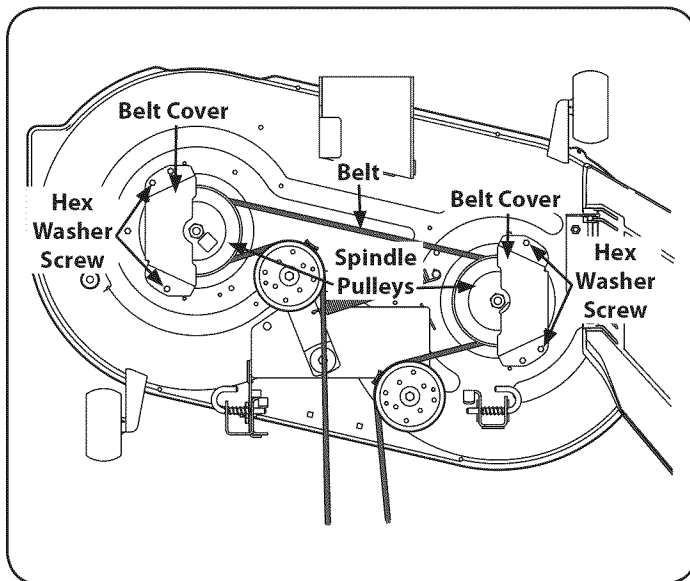

Figure 40
2. Remove the hex washer screws securing the belt covers to the deck and remove the belt from the spindle pulleys. Refer to Figure 40.
3. Install the new belt around the spindle pulleys as shown in Figure 40 and reinstall the belt covers.